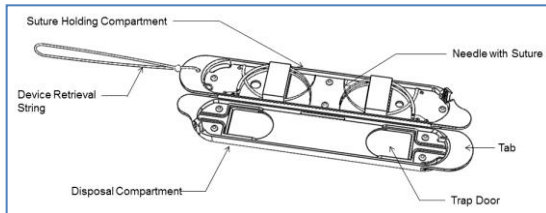

Figure 2 - View of StitchKit Device when it is open
- 5.4. Place the used needle (with remnant suture removed) into the disposal compartment via the trap door. It is typically easier to place the blunt aspect of the needle into the compartment first (Figure 2).